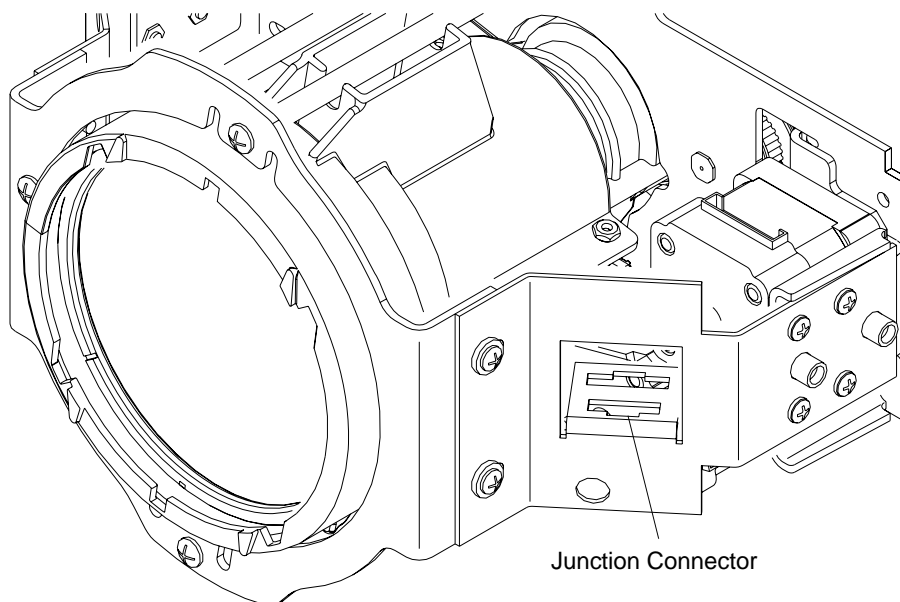

Figure 2-13: Disconnecting Zoom Optics Motor Wiring
- Step 6. Disconnect zoom optics motor wire connector from junction connector. **Figure 2-13.**